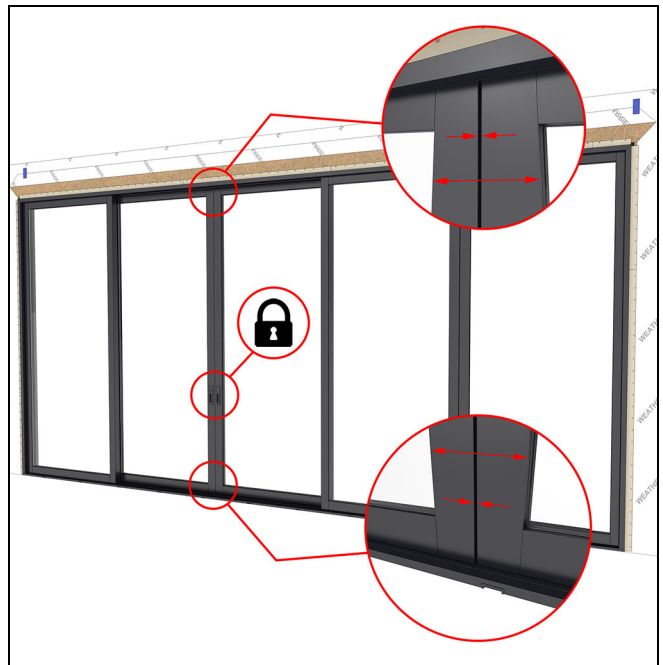

Figure 144
14. Close and lock the (A) and (E) operator panels. Check the operator panel for an even reveal. Adjust panel rollers as needed for proper lock engagement and reveal. See Figure 144.